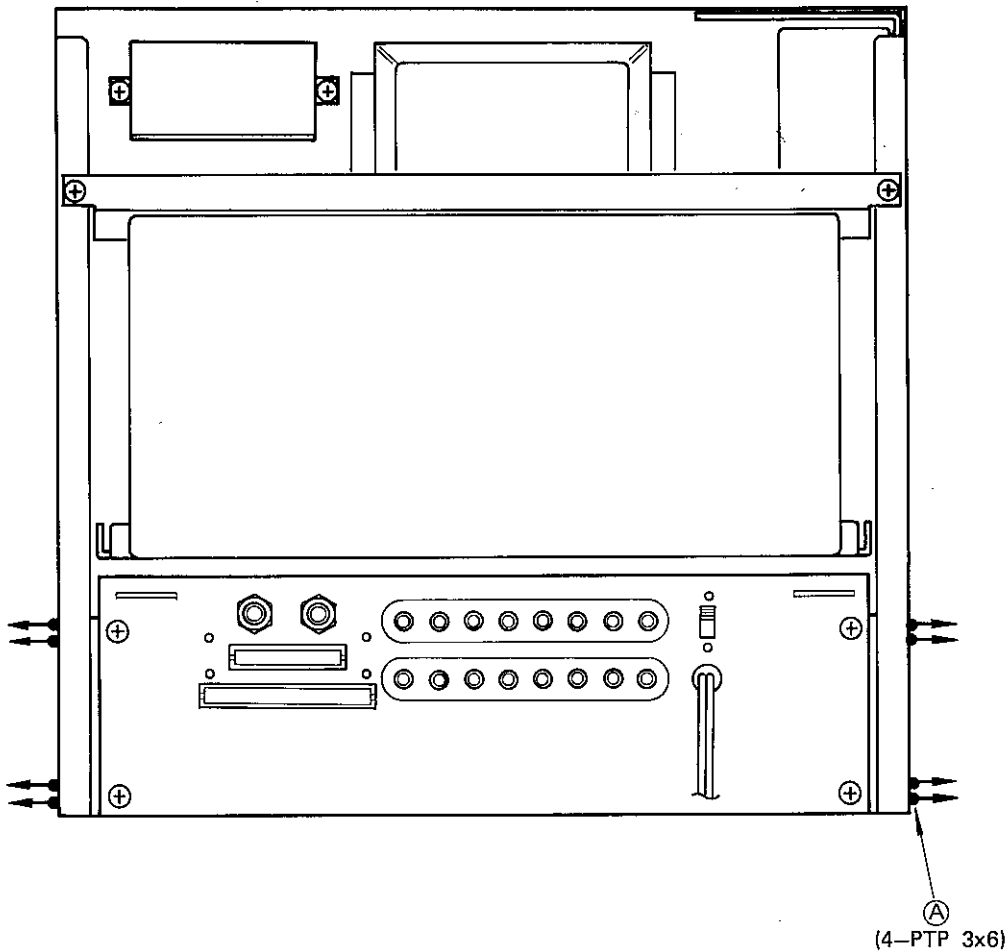
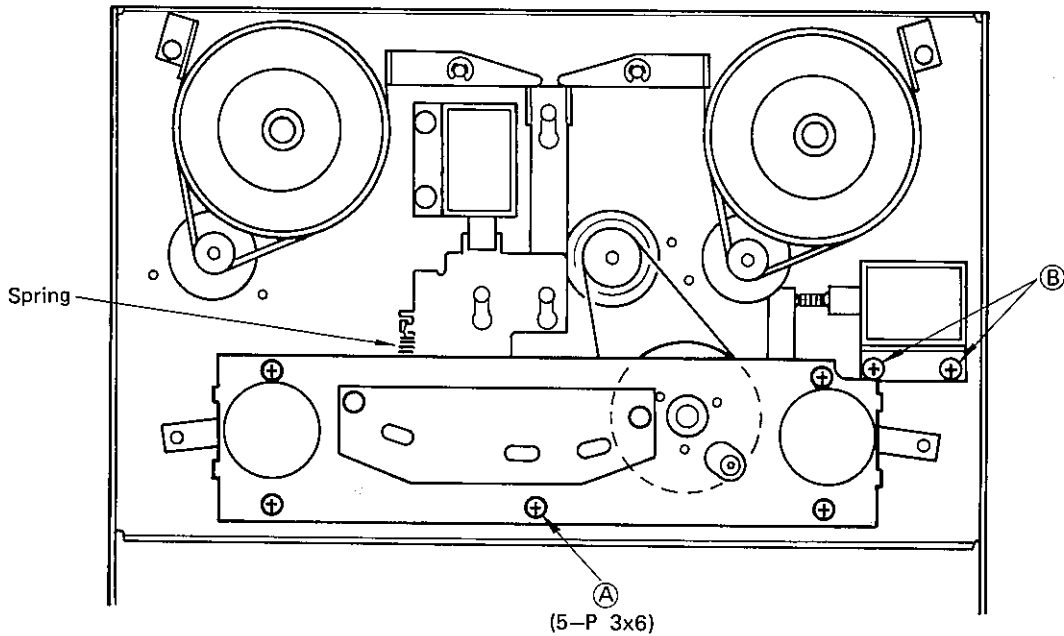

Fig. 6-4
Fig. 6-5
5) Amplifier assembly (Fig. 6-4)
- \* Upon loosening a total of eight screws (A) (four each on both sides) on the side chassis of the amplifier assembly, it can be pulled out from the housing.
6) Tape transport mechanism (Fig. 6-5)
- \* Remove five screws (A) and loosen the two screws (B), securing the solenoid.
- \* With the top panel removed, as in Fig. 6-5, hold the brake in its released state and remove the belt through the gap between the brake drum and brake band, taking care not to bend the brake band.